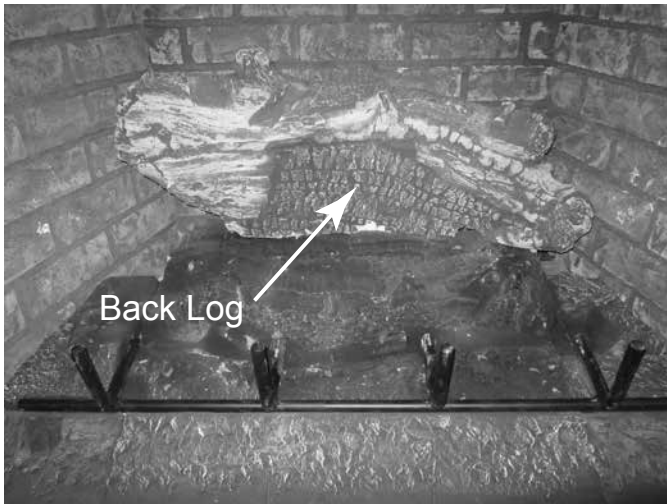

Figure 11.10
- Place back log on locating points on burner top. Pull left side of back log forward until log contacts left locating pin. See Figure 11.10.